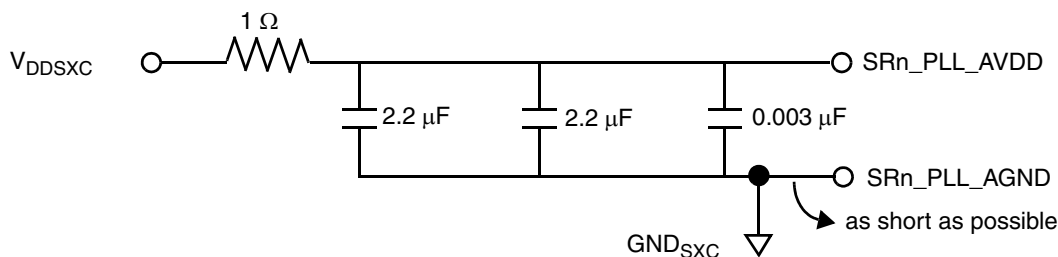

Figure 38. SerDes PLL Supplies
- Couple inputs SR1\_PLL\_AVDD and SR2\_PLL\_AVDD with SXCVDD1 and SXCVDD2 power rails, respectively, using an RC filter (see Figure 38).
Each SerDes PLL power supply must be filtered using a circuit similar to the one shown in Figure 38, to ensure stability of the internal clock. For maximum effectiveness, the filter circuit should be placed as closely as possible to the SRn\_PLL\_AVDD ball to ensure it filters out as much noise as possible. The ground connection should be near the SRn\_PLL\_AVDD ball. The 0.003  $\mu\text{F}$  capacitor is closest to the ball, followed by the two 2.2  $\mu\text{F}$  capacitors, and finally the 1  $\Omega$  resistor to the board supply plane. The